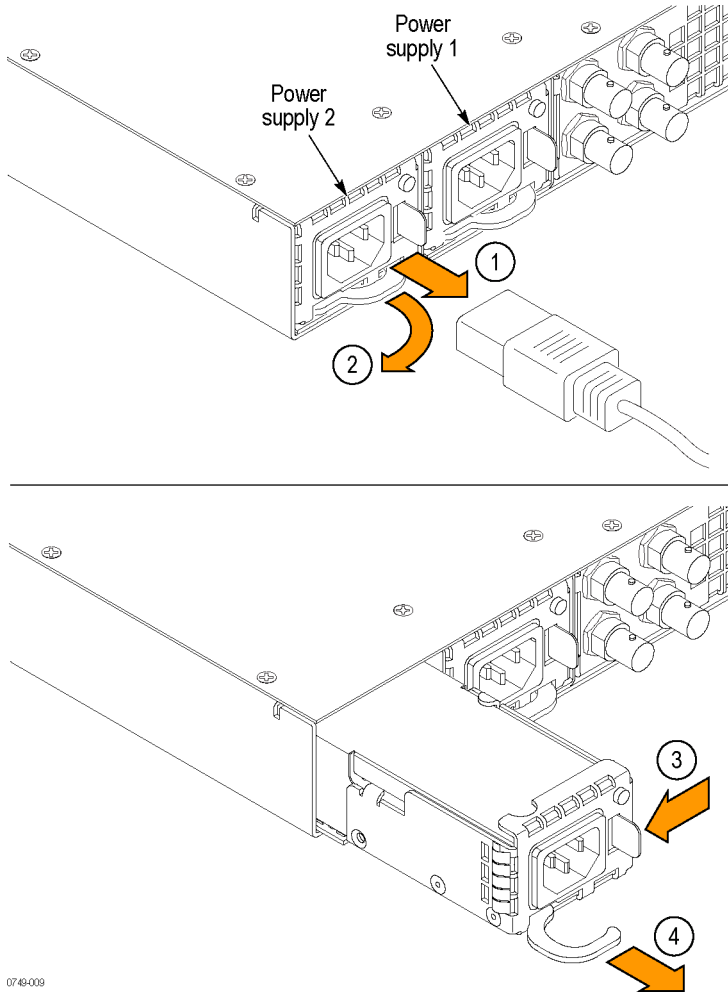

Figure 26: Removing a Power Supply module
CAUTION. *To prevent an unexpected shutdown of the instrument, be sure to unplug the correct power cord if you are replacing a faulty Power Supply module. (See Figure 26.)*
2. Pull out the handle located at the bottom of the supply. (See Figure 26.)